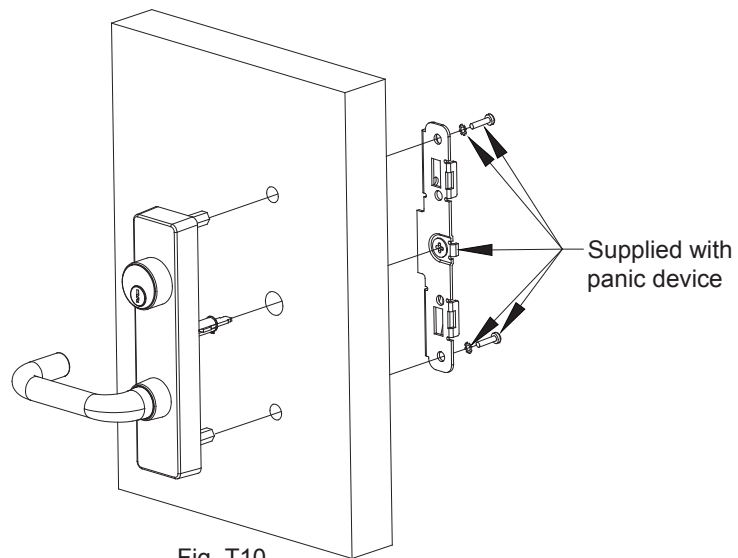

Fig. T10
10. Align the hex stand-offs and trim assembly through the drilled holes (Fig T10).